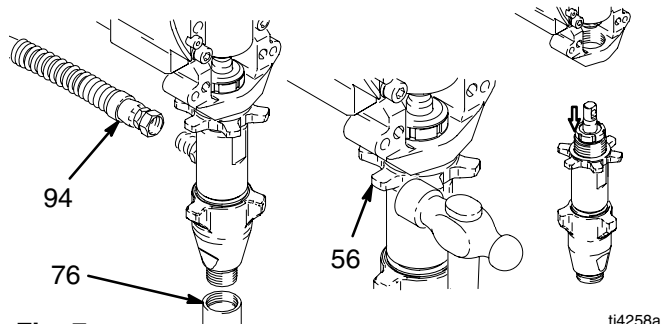

Fig. 7
5. Fig. 7. Remove suction tube (76), hose (94) and any washers and o-rings.
6. Loosen pump jam nut (56). Unscrew pump.
5. Fig. 7. Install washers, o-rings and suction tube (76) and hose (94).